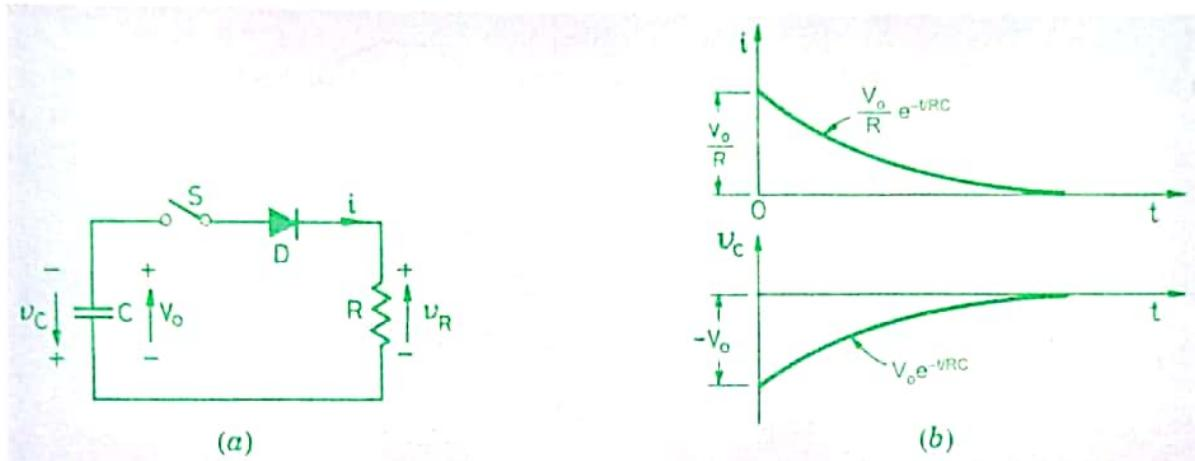

Fig. 3.5. Pertaining to Example 3.1 (a) circuit diagram and (b) waveforms.
**Example 3.1.** For the circuit shown in Fig. 3.5 (a), the capacitor is initially charged to a voltage  $V_0$  with upper plate positive. Switch  $S$  is closed at  $t = 0$ . Derive expressions for the current in the circuit and voltage across capacitor  $C$ . What is the peak value of diode current? Find also the energy dissipated in the circuit.
Current  $i(t)$  and voltage  $v_C(t)$  are sketched in Fig. 3.5 (b).